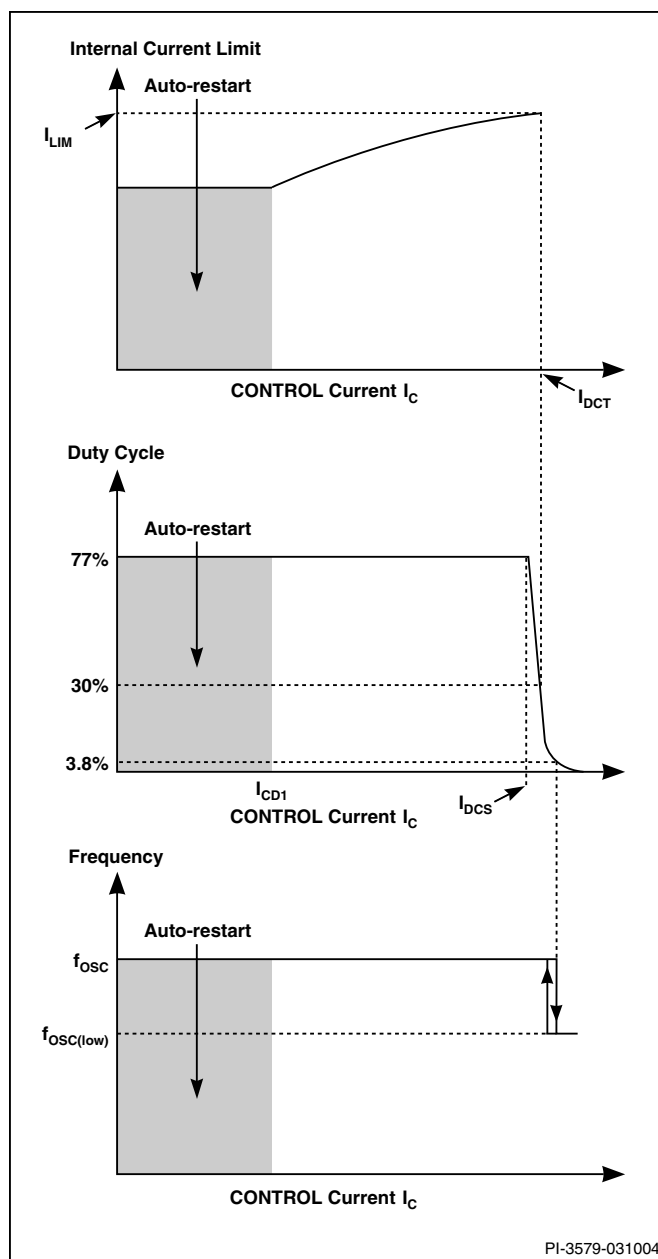
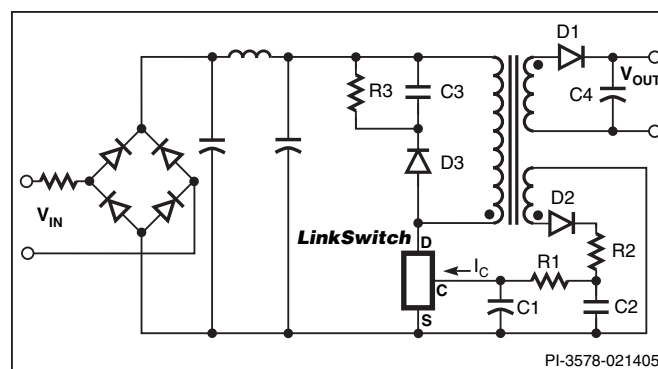
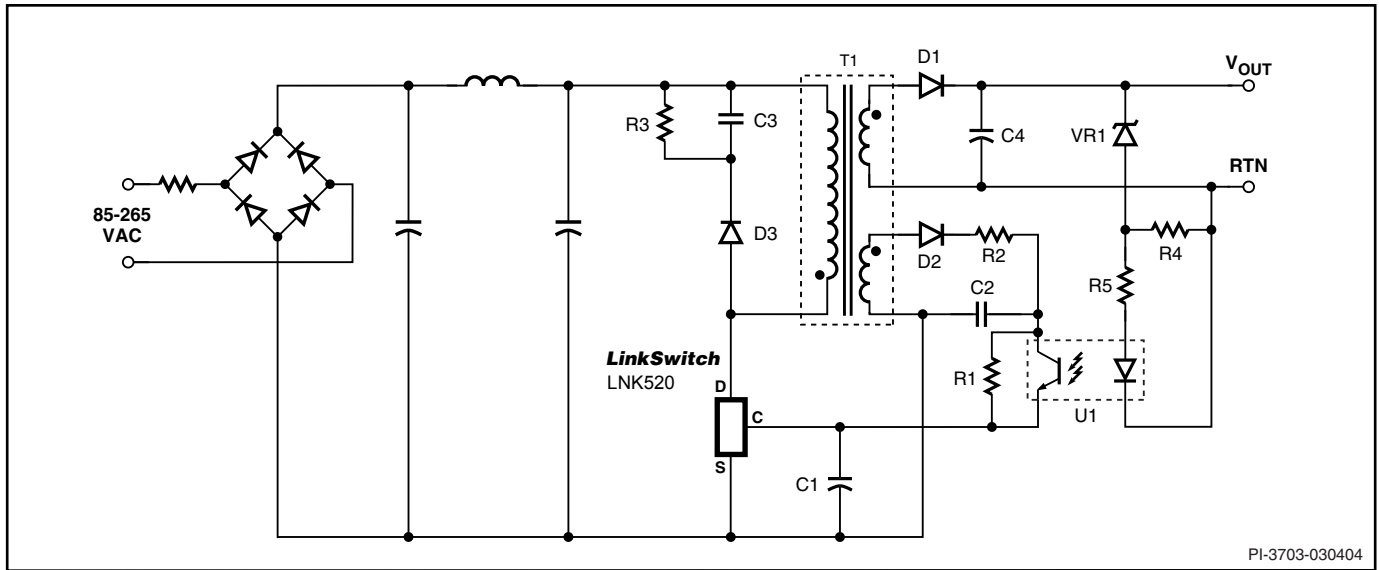

Figure 4. CONTROL Characteristics.
Figure 5. Power Supply Schematic outline.
Figure 6. Power Supply Schematic Outline with Optocoupler Feedback, Providing Tight CV Regulation.
The duty cycle, current limit and operating frequency relationships with CONTROL pin current are shown in Figure 4. Figure 5 shows a typical power supply schematic outline which is used below to describe the *LinkSwitch* operation.
During power up, as V_{IN} is first applied (Figure 5), the CONTROL pin capacitor C1 is charged through a switched high voltage current source connected internally between the DRAIN and CONTROL pins (see Figure 2). When the CONTROL pin voltage reaches approximately 5.6 V relative to the SOURCE pin, the high voltage current source is turned off, the internal control circuitry is activated and the high voltage internal MOSFET starts to switch. At this point, the charge stored on C1 is used to supply the internal consumption of the chip.
As the output voltage, and therefore the reflected voltage across the transformer bias winding ramp up, the feedback CONTROL current I_C flowing through R1 increases. As shown in Figure 4, the internal current limit increases with I_C and reaches I_{LIM} when I_C is equal to I_{DCT} . The internal current limit vs. I_C characteristic is designed to provide an approximately constant power supply output current as the power supply output voltage rises.
When I_C exceeds I_{DCS} , typically 2 mA (Figure 4), the maximum duty cycle is reduced. At a value of I_C that depends on power supply input voltage, the duty cycle control limits *LinkSwitch* peak current below the internal current limit value. At this point the power supply transitions from CC to CV operation. With minimum input voltage in a typical universal input design, this transition occurs at approximately 30% duty cycle. Resistor R1 (Figure 5) is therefore initially selected to conduct a value of I_C approximately equal to I_{DCT} when V_{OUT} is at the desired value at the minimum power supply input voltage. The final choice of R1 is made when the rest of the circuit design is complete. When the duty cycle drops below approximately 4%, the frequency is reduced, which reduces energy consumption under light load conditions.
Figure 6 shows a typical power supply schematic outline using *LinkSwitch* with optocoupler feedback to improve output voltage regulation. On the primary side, the schematic only differs from Figure 5 by the addition of optocoupler U1 transistor in parallel to R1.
When the power supply operates in the constant current (CC) region, for example at start up and when charging a battery, the output voltage is below the voltage feedback threshold defined by U1 and VR1 and the optocoupler is fully off. In this region, the circuit behaves exactly as previously described with reference to Figure 5 where the voltage across C2 and therefore the current flowing through R1 increases with increasing output voltage and the *LinkSwitch* internal current limit is adjusted to provide an approximate CC output characteristic.
When the output reaches the voltage feedback threshold set by U1 and VR1, the optocoupler turns on. Any further increase in the power supply output voltage results in the U1 transistor current increasing. The resulting increase in the *LinkSwitch* CONTROL current reduces the duty cycle according to Figure 4 and therefore, maintains the output voltage regulation.
At very light or no-load, typically less than 2 mA of output current, the output voltage rises due to leakage inductance peak charging of the secondary. This voltage rise can be reduced with a small preload with little change to no-load power consumption. The output voltage load variation can be improved across the whole load range by adding an optocoupler and secondary reference (Figure 6). The secondary reference is designed to only provide feedback above the normal peak power point voltage to maintain the correct constant current characteristic.